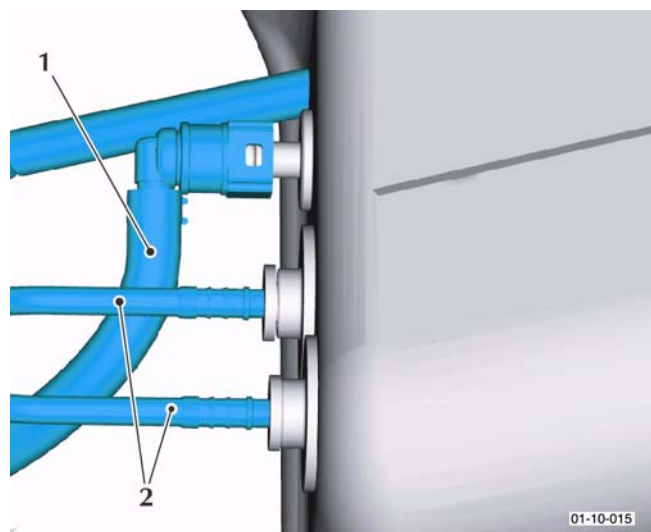

Figure 5
16. Disconnect the vapour purge (1) and fuel pipes (2) from the tank (Refer to '310-040 (Fuel Pipe Disconnect Tool)', page 20-1-6). Seal the open ends on the tank and on the pipes (Refer to Figure 5).